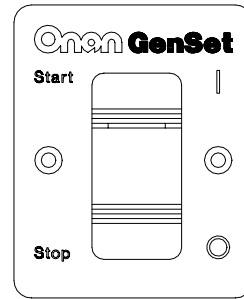

FIGURE 15. REMOTE CONTROL
- Remote start/stop switch with status indicator light only (Figure 15).